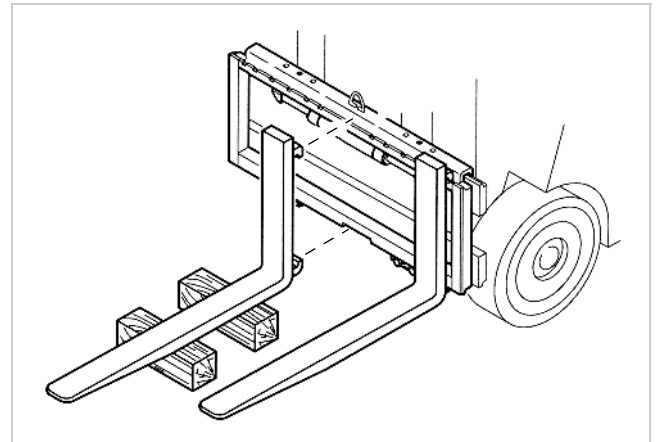

Fig. 8 (16213-01)
6. See Figure 8. Install the forks.